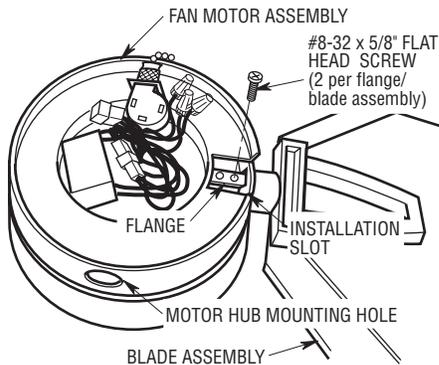

Figure 2
- 3. Insert the blade flange into one of the mounting holes in the motor hub (Figure 2). Rotate the motor hub to align the flange with the slot in the motor assembly. Insert one #8-32 x 5/8" flat head screw (supplied) into one of the flange mounting holes; do not fully tighten. Install the second screw in the same manner; tighten both screws securely.